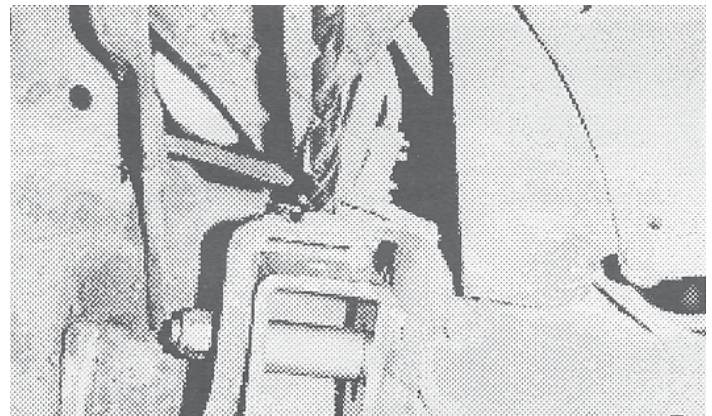

Fig. 33
32. On early models with closed top upper rear receivers, using hole in top of brackets "LR" and "RR" respectively to index, drill 1/2" hole in top of OE bracket. Install 1/2" x 1-1/2" bolt, washer and nut provided. Shim gap between "LR" and OE receiver with one "LP" tab. Tighten fasteners to specification. **Fig. 33.**